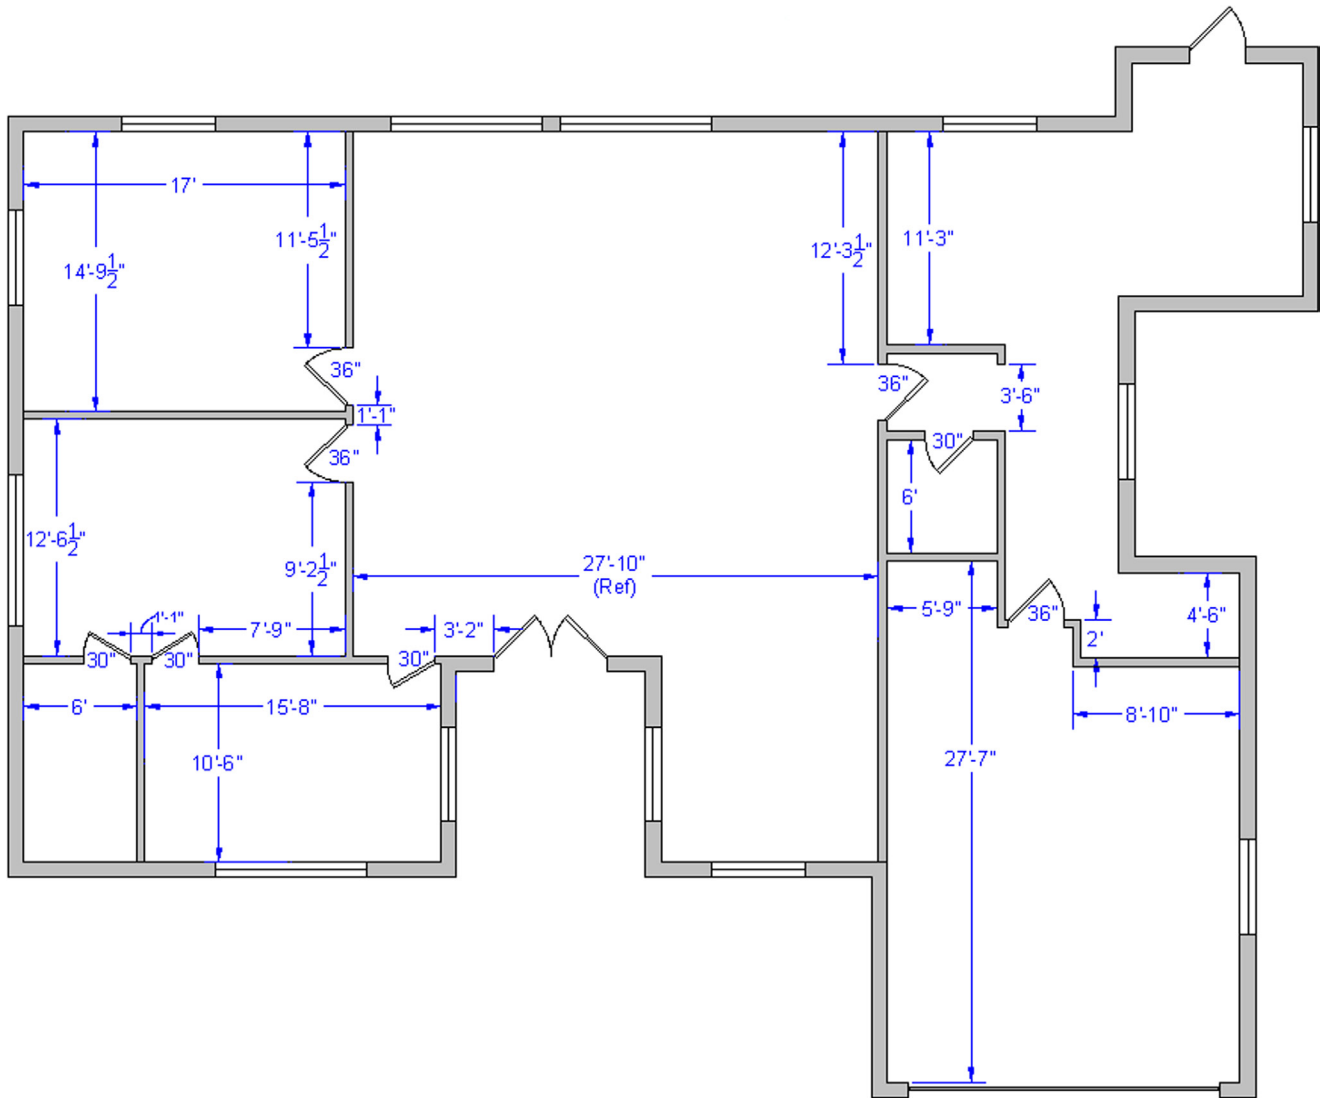

FIGURE 12.12
Step 3. Add in the interior walls and doors as shown in Figure 12.12. All interior walls are 5" thick. Also add in the actual dimensions themselves. As mentioned before, they are very useful as a check of your drafting accuracy.